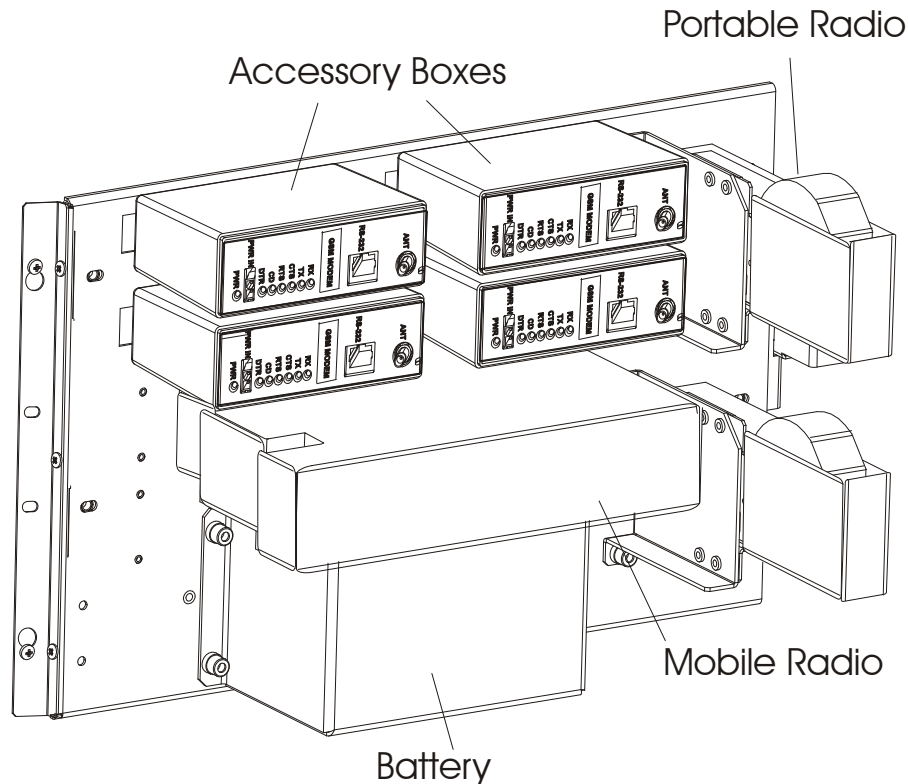

Figure 2-27 Accessories Installed on a Metal Chassis
- 1) To connect the accessory box interface to the metal chassis, place the box on the metal plate and click the two pegs on the back of the accessory box into the desired holes on the metal chassis. See Figure 2-27.